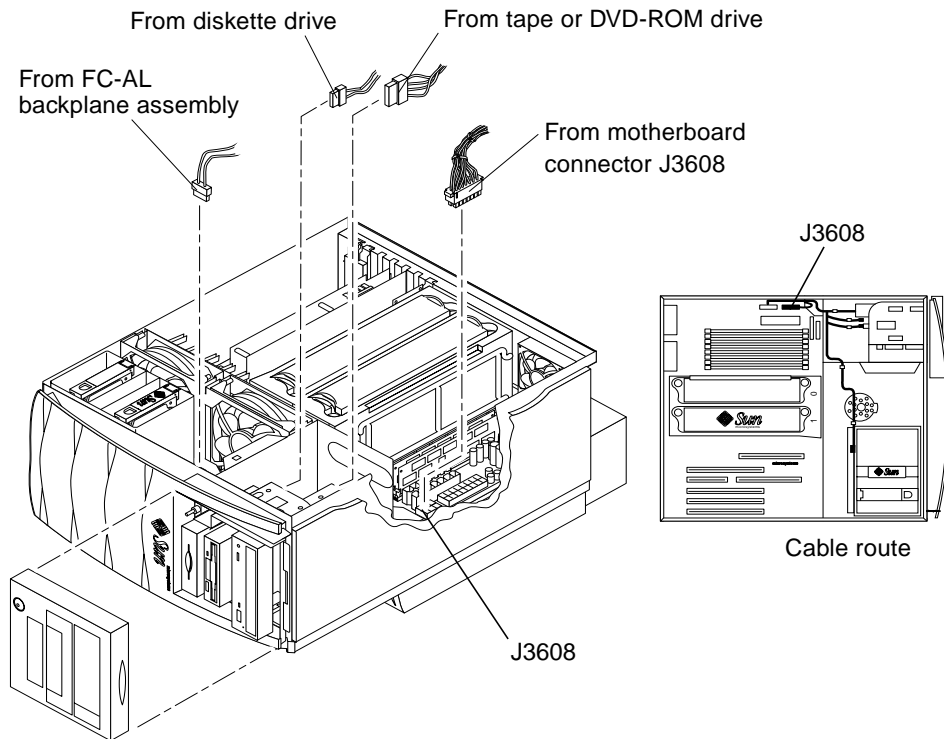

FIGURE 6-6 Removing and Replacing the Peripheral Power Cable Assembly
4. **Disconnect the peripheral power cable assembly as follows (FIGURE 6-6):**
1. Position the peripheral cable assembly in the chassis (FIGURE 6-6).
2. Connect the peripheral power cable assembly as follows (FIGURE 6-6):